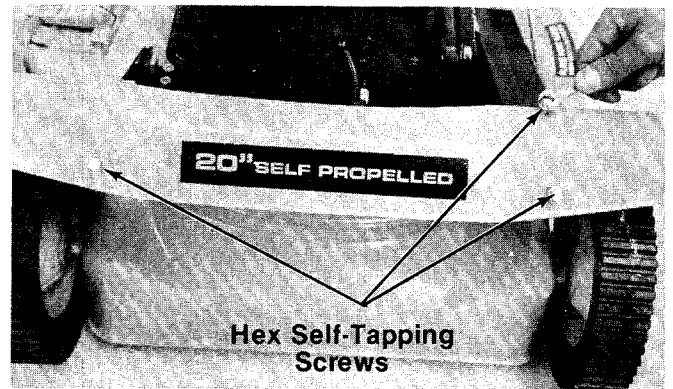

FIGURE 21.
1. Remove the drive pinion cover by removing three hex self-tapping screws. A 3/8" wrench is required. See figure 21.